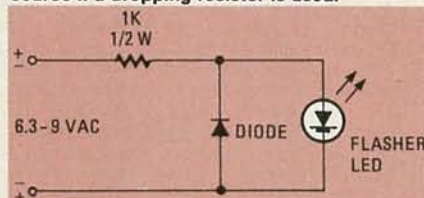

FIG. 3—AC POWER can be used if a diode and dropping resistor are included as shown.
An alternating current (AC) power supply of a nominal 6 to 9 volts can be used to power the flasher LED by adding a diode to the circuit to protect the LED/IC chip during negative voltage swings of the AC voltage. This circuit arrangement is shown in Fig. 3. The 6.3- to 9-volt AC power supply can be obtained by using a 115-volt to 6.3 volt filament transformer or an AC pocket calculator charger which usually has a nominal 8-volts AC output.